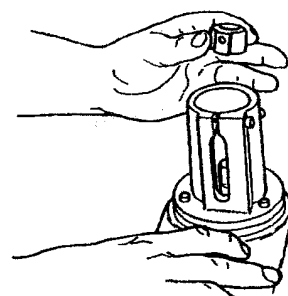

Fig.27
7. Install the drive hub (36) supplied with the Speed Reducer on the input shaft inside the quill clamp as follows—
-Insert a 5/32" Allen wrench through the slot in the base of the quill clamp (4).
-At the "mouth" of the quill clamp, hold the drive hub (36) while you insert the Allen wrench into the hub's setscrew, shown in Fig.27.